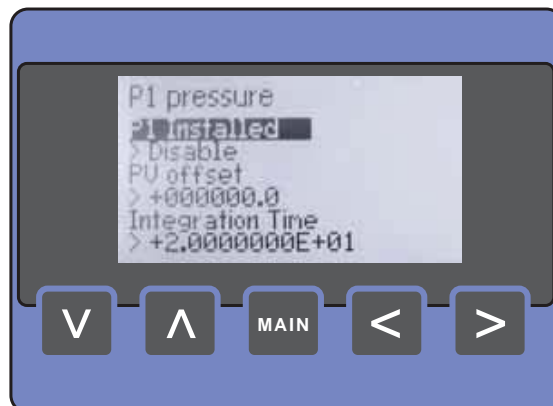

FIGURE 4-15
- On selection of an available function, the [entity list] screen is presented (see FIGURE 4-15). You can navigate through the entity list by using the up or down button. An entity can be selected by simultaneously pressing the left + right button. You can return to the [function list] screen by pressing the left button.